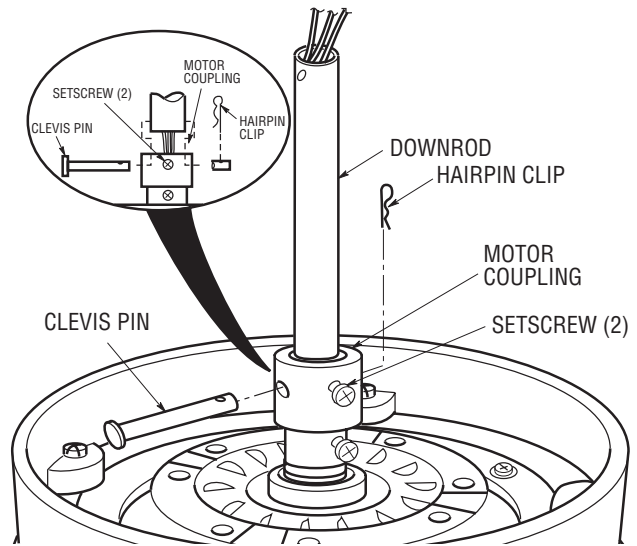

Figure 6
- 8. Separate, untwist and unkink the three motor leads. Route the motor leads through the downrod and seat the downrod in the motor coupling (Figure 6).
- 9. Align the clevis pin holes in the downrod with the holes in the motor coupling. Install the clevis pin and secure with the hairpin clip (Figure 6). (Pin and clip are supplied in loose parts bag.) The clevis pin must go through the holes in the motor coupling and the holes in the downrod. Push the straight leg of the hairpin clip through the hole near the end of the clevis pin until the curved portion of the hairpin clip snaps around the clevis pin. The hairpin clip must be properly installed to prevent the clevis pin from working loose. Pull the downrod to make sure the clevis pin is properly installed.
- 10. Install the two setscrew (supplied) in the motor coupling (Figure 6). While pulling up on the downrod, tighten the setscrews using the setscrew wrench (supplied).